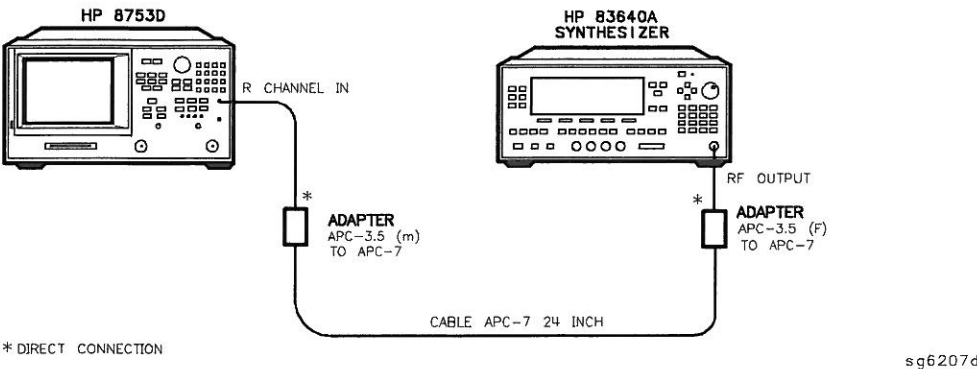

Figure 1-15. External Source Mode Frequency Range Test Setup
2. Connect the equipment as shown in Figure 1-15.